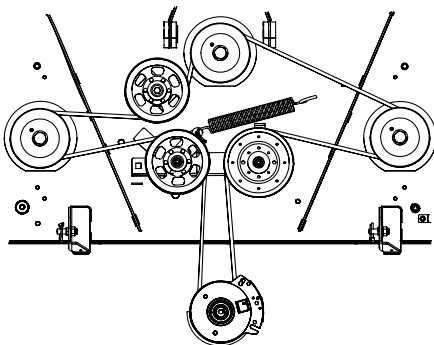

Figure 4-17
- Place the belt around the idler pulleys removed in step 3 with the "V" side facing in. Once in place, reinstall all the hardware and tighten the flange lock nut to secure the assembly. See Figure 4-17.
- Route the belt as shown in Figure 4-17 and then reinstall the deck (refer to Deck Installation).